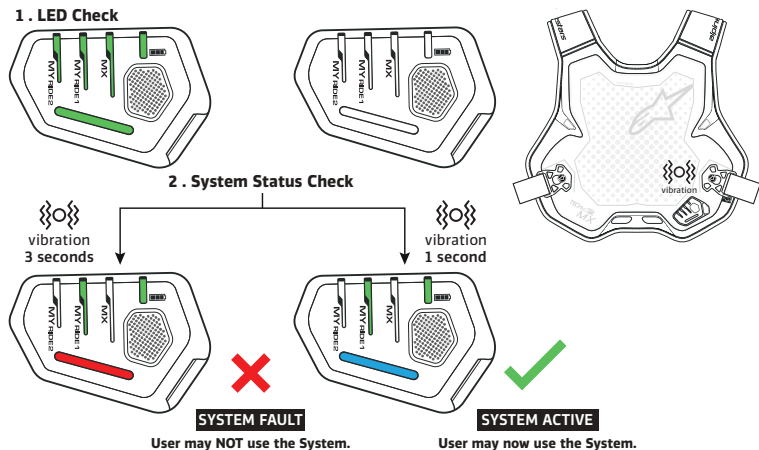

Figure 8: System is Performing both the LEDs Check and the Status Check
3d) will turn on SOLID GREEN for approximately 1 second and then will turn off as shown in Figure 8.
2) System Status Check: after the LEDs Check phase, the System Status LED (3b) will turn SOLID BLUE indicating that the System is active (Figure 8) and therefore is ready to protect the User in the event of an accident. A short vibration of approximately 1 second will also be felt in near the Activation Buckle (2). In this condition, the User can also check the Riding Mode (Riding Mode LED [3c]) that is currently running, and the battery level of the System (Battery Level LED [3d]) (see Section 8, "LED Display (3) Indications Summary.")
WARNING! If the System Status LED (3b) turns SOLID RED, a System Fault is present (Figure 8). A long vibration of approximately 3 second will also be felt near the Activation Buckle (2). This condition indicates that the System is NOT correctly functioning and, therefore, will NOT protect the User in the event of an accident (see Section 19, "Troubleshooting.")